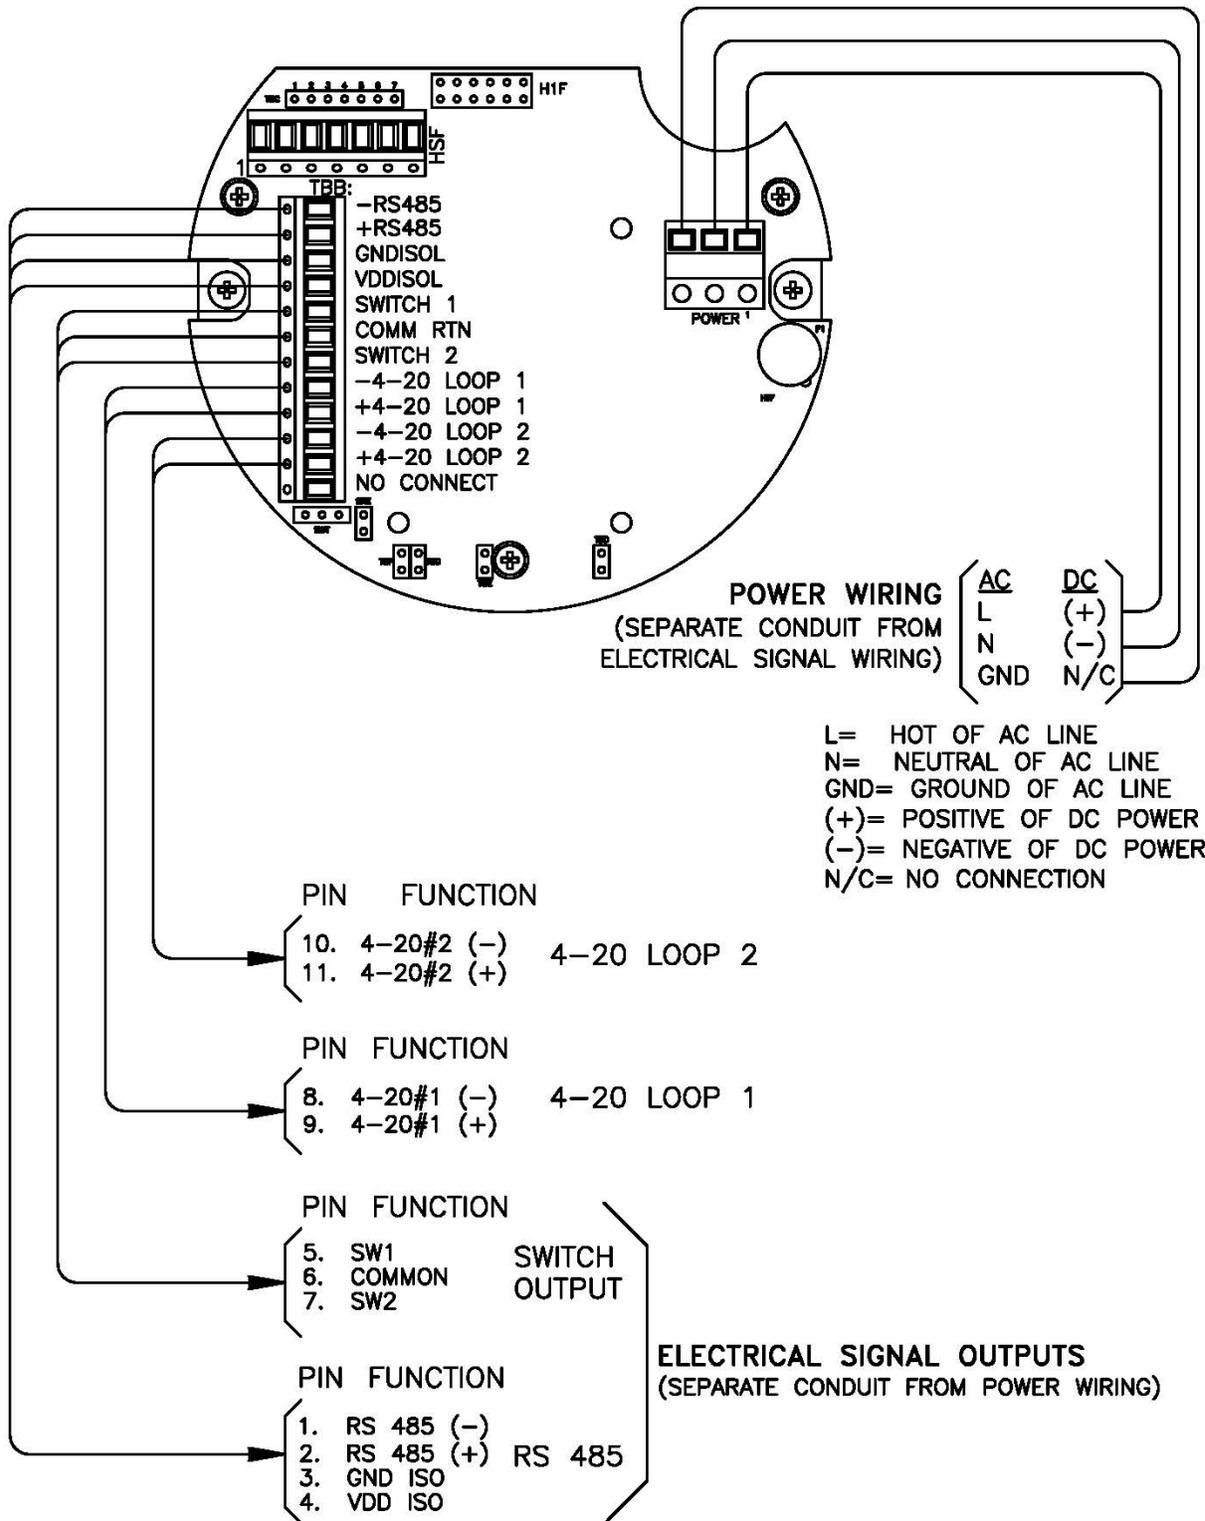

FIGURE 2.7: TrendMassTer® Power And Signal Outputs Wiring
Using Figures 2.7 and 2.9 as guides, connect the six wires from terminal block HSF in the Remote Electronic (RE) enclosure to terminal block TBC in the Remote Probe (RP) enclosure. The terminals are labeled 1 through 6 and the wires are color coded.
There are dual, isolated open drain outputs for switching relays and 4-20 mA current Loops as well as a single RS-485 output or an optional Ethernet output. The electrical output signal wiring is to terminal block TBB at the left side of the electronic board shown in Figure 2.7.